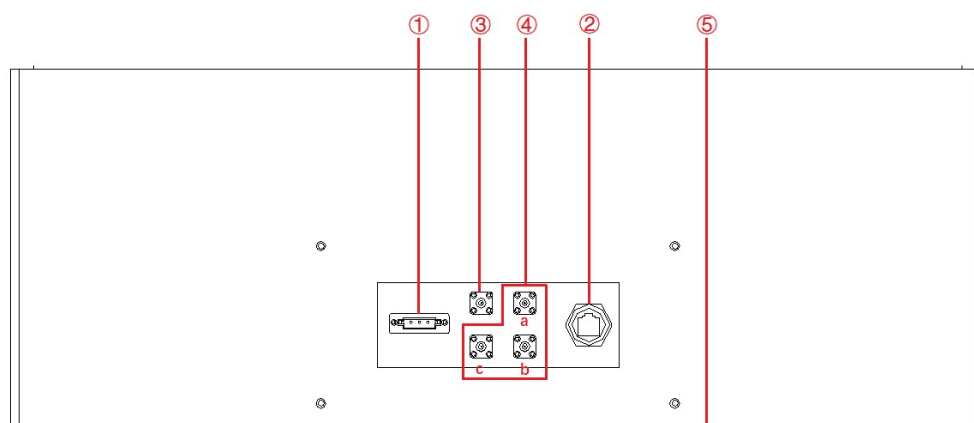

Figure 1-15 Rear panel of power supply
The ATI interface is located on the rear panel of power supply (Figure 1-15④).